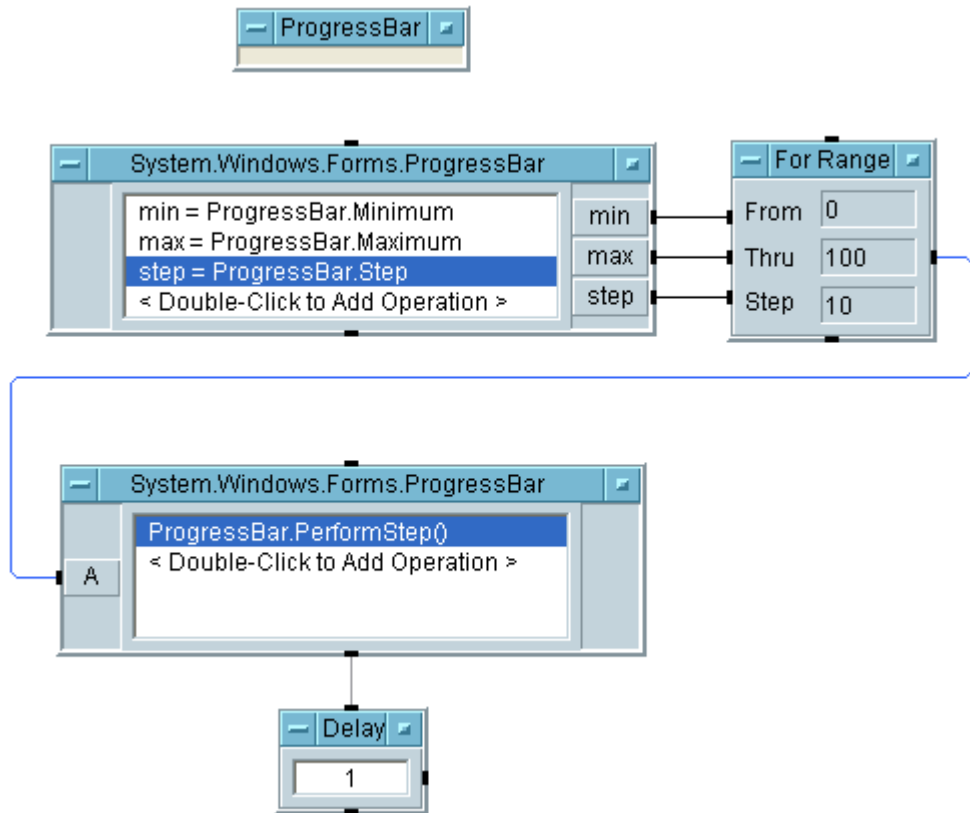

Figure 180 Creating an Active Progress Bar
- 8 Connect the two .NET Operation Builders with a ForRange object and a Delay object, as seen in Figure 180 on page 311.